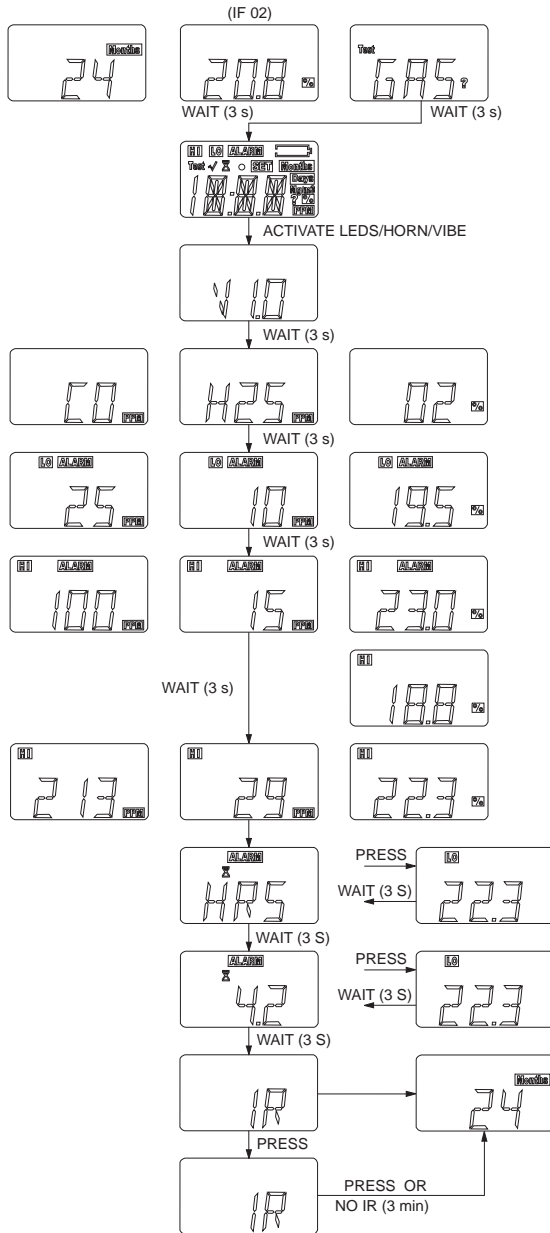

Fig. 5 Calling instrument information up
- (1) By pressing the [TEST] key, the stored instrument data can be called up ( Fig. 5).